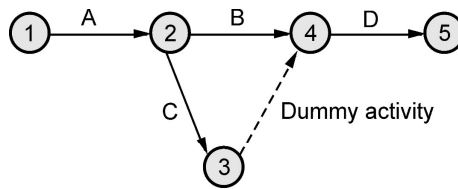

Fig. 4.2.1
- For example, consider a situation where A and B are concurrent activities. C is dependent on A and D is dependent on A and B both. Such a situation can be handled by using a dummy activity as shown in the Fig. 4.2.1.